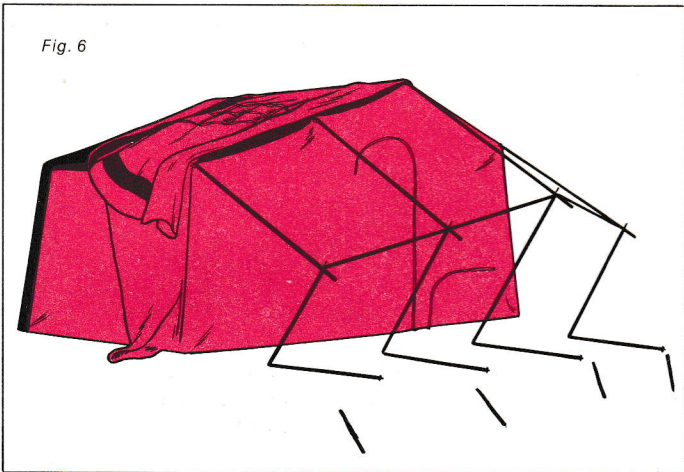

Fig. 7
15. Locate front angles through gussets and spikes through to eyelets. Add, and tension 4 short canopy poles. (See Figure 7.)